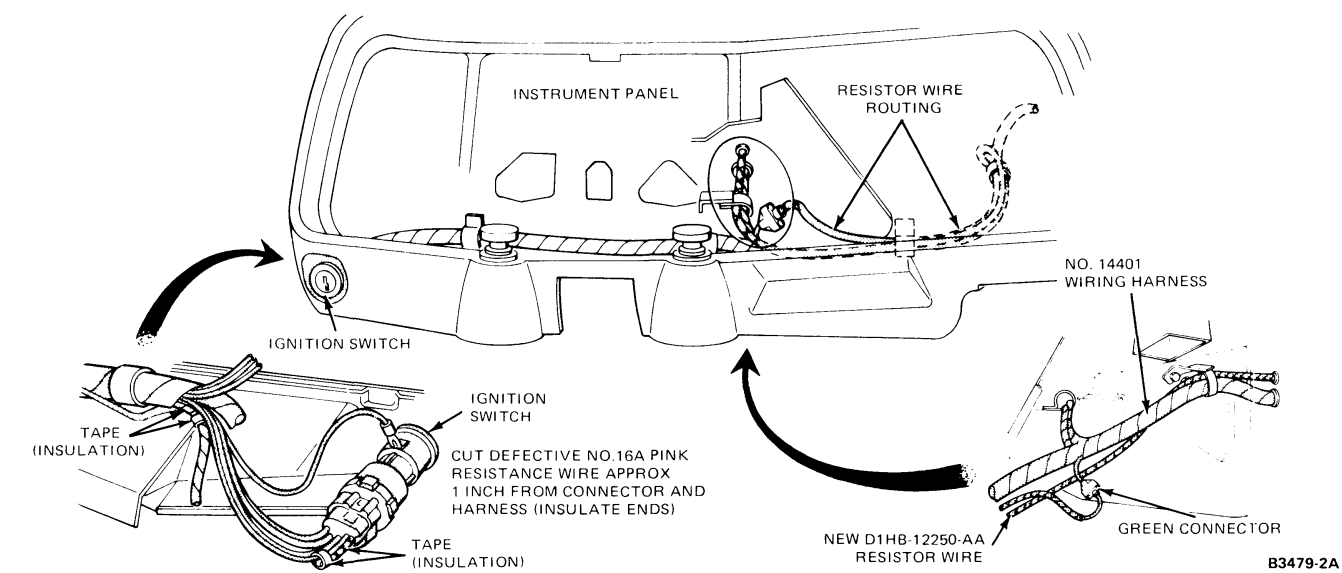

FIG. 21 Resistance Wire Connection Inside of Cab-Line Haul Vehicle
3. Line Haul Only. Working from inside the cab, locate the multiple (3 socket green) connector behind the lower instrument panel. Connect the bullet terminal end of the new D1HB-12250-AA resistor wire into one of the sockets (Fig. 21).